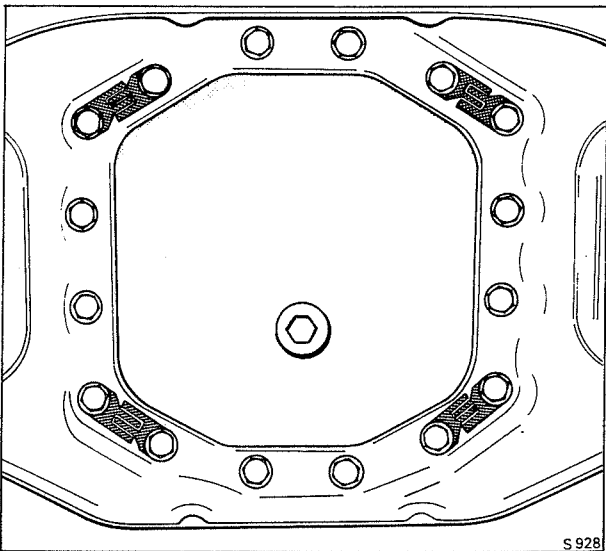

Fig. J11 Locking washers – final drive end cover
1. The rear crossmember should be fitted with the eight interlocking washers fitted correctly on the eight corner setscrews (see Fig. J11).